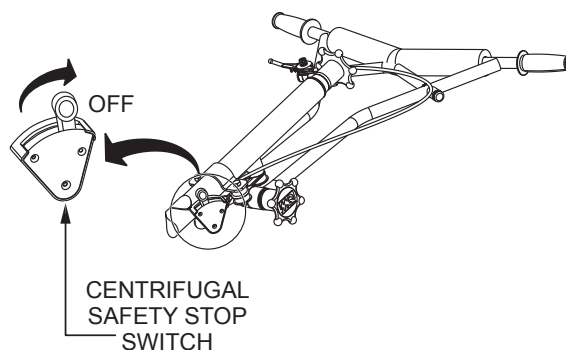

Figure 34. Centrifugal Safety Stop Switch (OFF)
2. With the engine running at idle, place the safety stop switch lever in the **OFF** position (Figure 34) and verify that the engine shuts off. If the engine continues to run, replace the centrifugal safety stop switch.